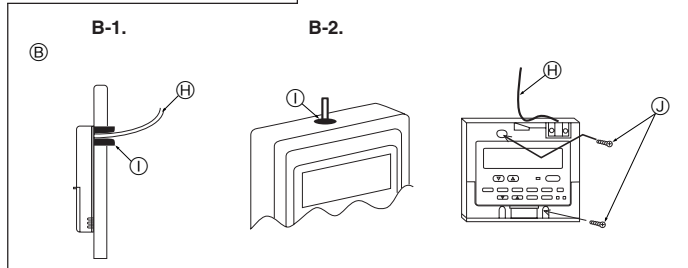

Fig. 7-5
(2) Seal the service entrance for the remote controller cord with putty to prevent possible invasion of dew drops, water, cockroaches or worms. (Fig. 7-5)